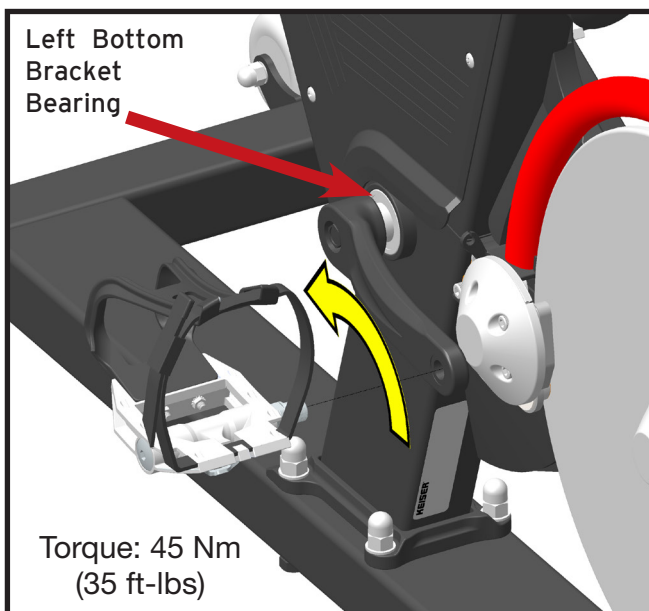

Figure 9. Installing the Left Pedal, Turn Counter-Clockwise
- Left Pedal - Thread the left pedal (marked L) into the left side of the left crank arm by turning it counter-clockwise, refer to Figure 9.